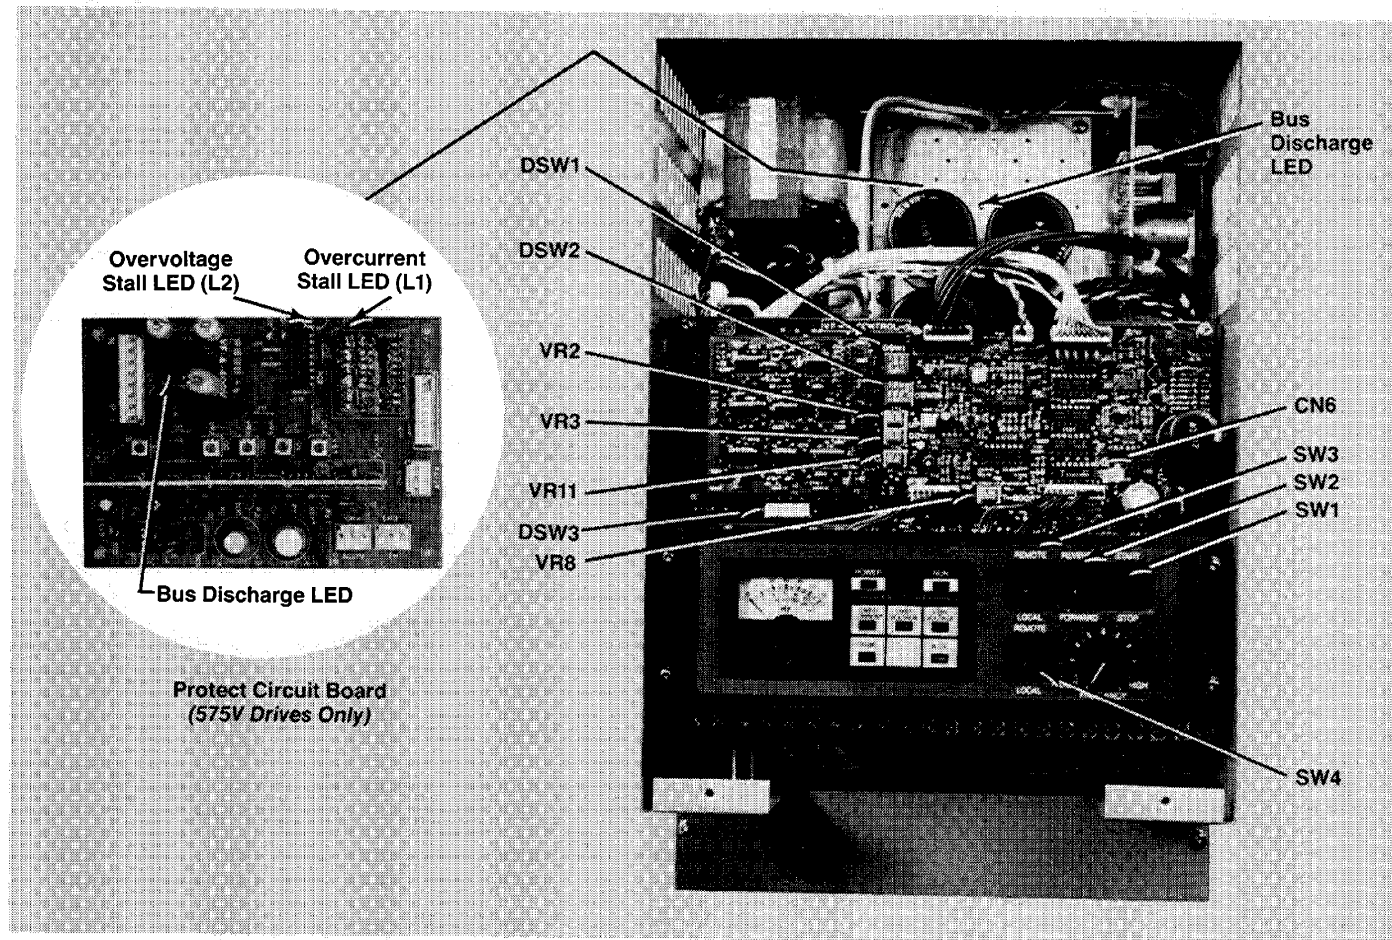

Figure 6-1. Adjustment, Switch and LED Locations
The LED indicators described below are located within the Drive and can only be viewed with the Drive cover removed. See Figure 6-1 for LED locations.
With power off and cover removed, verify that the incoming AC power and motor connections are in accordance with Appendix A. Also verify that all control logic interconnections are made in accordance with Chapter 3, *Installation*. Figure 6-1 indicates the locations of adjustments, switches and status LED's used in start-up and operation of the Bulletin 1332.
When incoming line voltage falls below 90% of Drive input rating, internal protective functions operate to stop the Drive. But the Drive can be programmed to automatically re-start if the incoming line voltage stays above 30% of the rated input (below 30%, the restart circuit is inoperative). To do this, simply remove CN6 (see Figure 6-1).
**WARNING:** Before proceeding with any maintenance or troubleshooting activity, allow at least one minute after input power has been removed to allow for bus circuit discharge. A bus Discharge LED is incorporated on the Drive to provide visual indication of the presence of bus voltage. The bus voltage may be verified by using a voltmeter to measure the voltage between terminals "P" (+) and "N" (–) on the Power Terminal Block. Do not attempt any servicing until the LED has extinguished or the bus voltage has diminished to zero. Refer to Figure 6-1 for LED location.